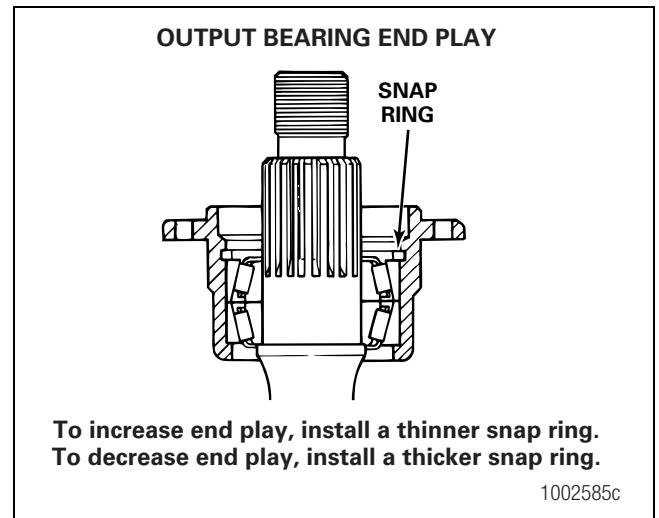

Figure 5.93
- **If the end play reading is not 0.001-0.004-inch (0.025-0.102 mm):** Remove and replace the snap ring that fastens the bearings in the cage. Install a thinner snap ring to increase the end play. Install a thicker snap ring to decrease the end play. Figure 5.93.